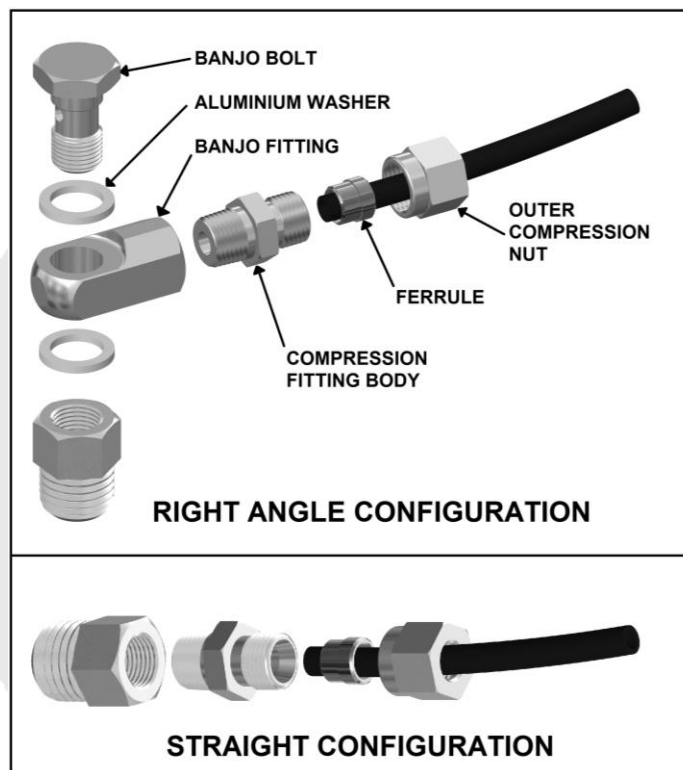

Figure 5.
- Assemble an aluminium washer onto the banjo bolt and insert through the banjo fitting. Assemble second aluminium washer and tighten into bulkhead fitting using a 14mm [9/16"] spanner. (Fig.5.)
- Insert the outer compression nut and ferrule over the air line. Ferrule should be orientated as per Fig.5.
NOTE : When right angle routing of the tube is not required, screw the compression fitting body straight into the bulkhead fitting body (Fig.5.).